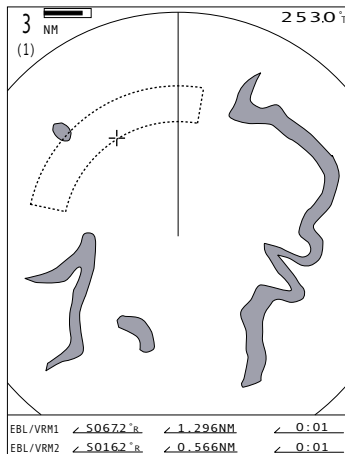

Fig. 1
- ① Push [+] / [-] to select the desired range.
- ② Push [^] / [v] / [<] / [>] to set the cursor to the starting point of the alarm zone.
- ③ Push and hold [ALM] for 0.5 sec. to enter the alarm zone setting.
- The starting zone appears on the screen. (Fig. 1)
- ④ Push [<] / [>] to adjust an angle and push [^] / [v] to set the distance of the alarm zone.
- ⑤ Push [ALM] to fix the alarm zone and activate the alarm function.
- ⑥ If a target comes into or goes out of the alarm zone, an alarm beep is emitted.
- ⑦ To deactivate the alarm function, push [ALM].
- ⑧ To activate the alarm function again with the same programmed zone, push [ALM].